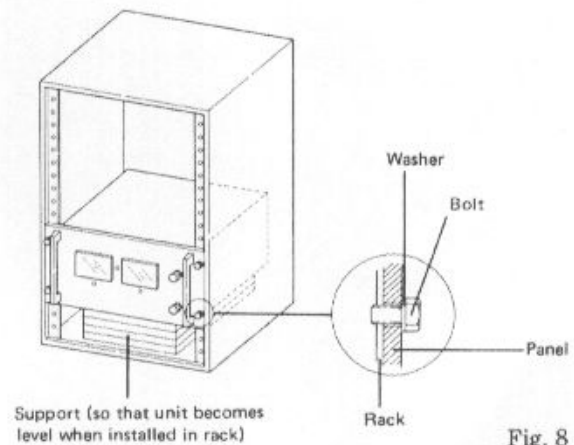

Fig. 8
1. Remove feet (4) from each unit.
3. As shown in Fig. 8, align the front panel holes with those of the rack and secure the unit firmly with screws and washers. If a space occurs between an upper and lower unit, place a supporting object on the lower unit, then secure the upper unit. Afterwards, remove the supporting object.